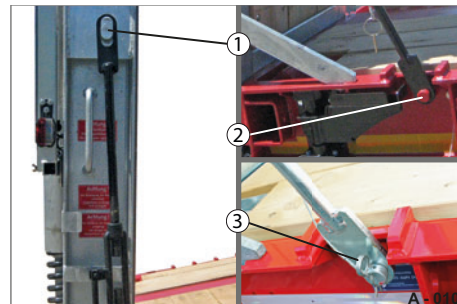

Fig. 9 Turnbuckle mounted
- Mount the turnbuckle into the upper pin (Fig. 9/1) of the ramp.
- Plug the lower part of the turnbuckle onto the lower pin (Fig. 9/2) on the chassis.
- Secure the turnbuckle with the safety splint pin/spring pin (Fig. 9/3) on the lower pin.